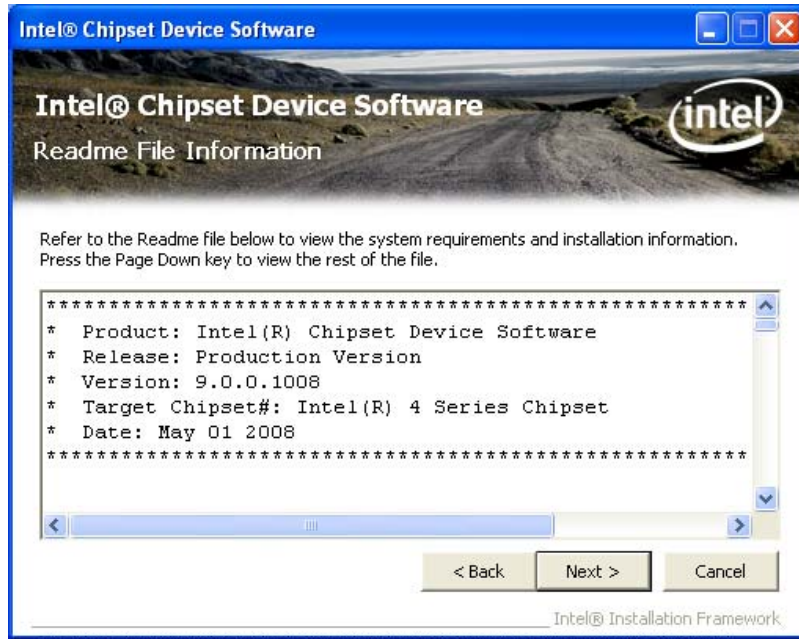

Figure 7-5: Chipset Driver Read Me File
Step 8: The Read Me file in **Figure 7-5** appears.